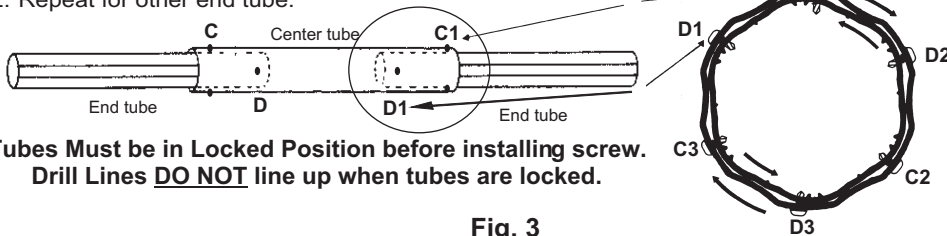

Fig. 3
B. Lock tubes together by rotating the center tube in the opposite direction to end tube. **HOLD TUBES LOCKED WHILE YOU INSTALL FIRST SELF-DRILLING SCREW ON A DRILL LINE**, 1" (2.5 cm) back from end of center tube at Location "C1" (see Fig. 3 & 4).
C. Place 2 more self-drilling screws at Location "C2" & "C3" - 1 screw at every second drill line around tubes (see Fig. 3).
D. At "D" locations install 3 screws around the center tube at every second drill line, 1" (2.5 cm) back from where you marked the end of the inner tube from Fig. 2A (see also Fig. 3).